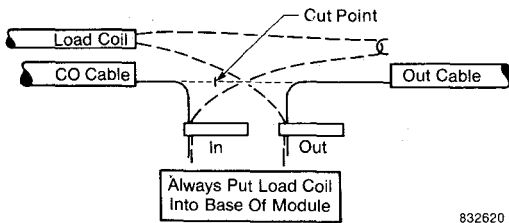

Fig. 127—Place cuts.
- f. Cut first straight through cable pair to be loaded at pair 17 (y/o) of left hand splice head. After pair has been cut, place left cut end in first wire way of body/top (BL/W) of left splice head; place right cut end in first wire way (BL/W) of right splice head. See Figure 127.
- h. Cut second straight through cable pair to be loaded at pair 18 (Y/GR) of left hand splice head and insert in pair number two (O/W) locations on **each** splice head. Continue cutting each successive pair in the 25 pair group, moving over one pair each time, until both module body/tops are filled. The **last** cut of the 25 pair group will be made at pair number seven (R/O) of the right hand splice head. Refer to Figure 127.